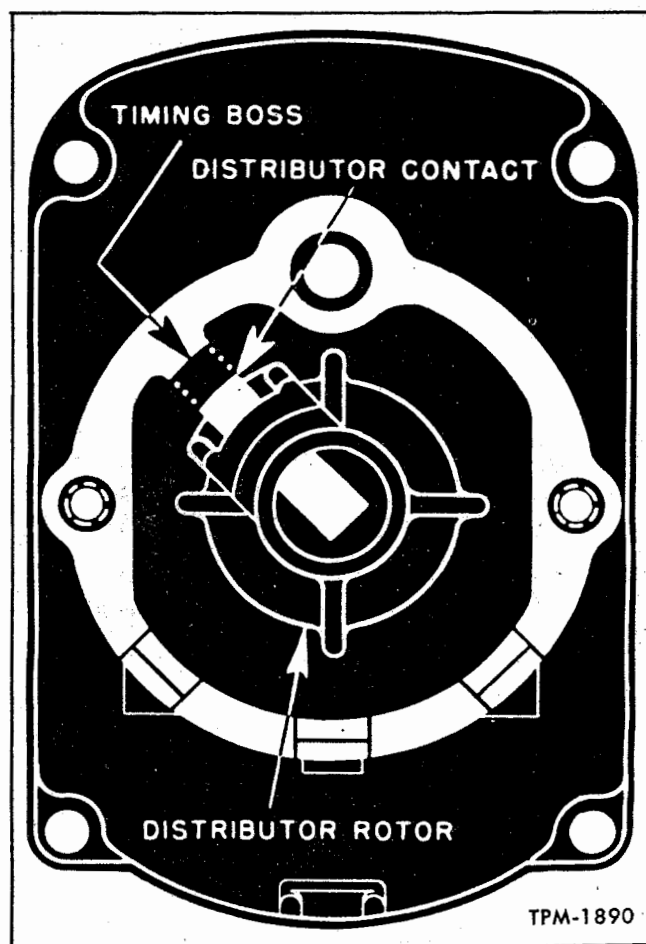

Figure 29—Magneto Timing Diagram
1. Magneto. Set the magneto for advance spark position in the No. 1 cylinder. This is done by turning the rotor from the coupling end in the direction OPPOSITE to that of normal operation until the distributor contact lines up exactly with the timing boss as indicated by the dotted lines in the timing diagram shown in figure 29. The magneto is now timed for advance spark position (top dead center) in the No. 1 cylinder and should be held exactly in this position until it is coupled to the engine.